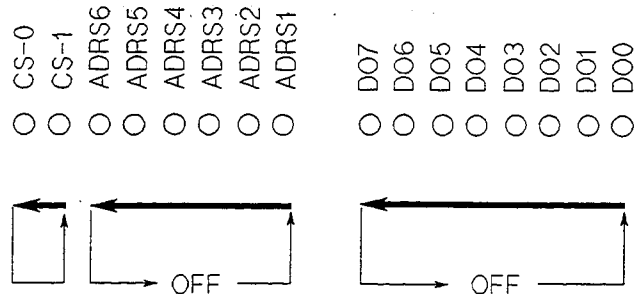

Figure 1-19. Accessory Control Interface Function Test
11. Confirm that the CS0 and CS1 LEDs on the simulator turn ON as the HP 4285A's output signal is displayed on the LCD. (Refer to Figure 1-19).
12. Confirm that ADRS1-ADRS6 LEDs on the simulator turn ON in accordance with the hexadecimal number displayed on the LCD. One of the 6 LEDs turns ON in sequence as shown in Figure 1-19.
13. Confirm that DO0-DO7 LEDs on the simulator turn ON in accordance with the hexadecimal number displayed on the LCD. One of the 8 LEDs turns ON in sequence as shown in Figure 1-19.